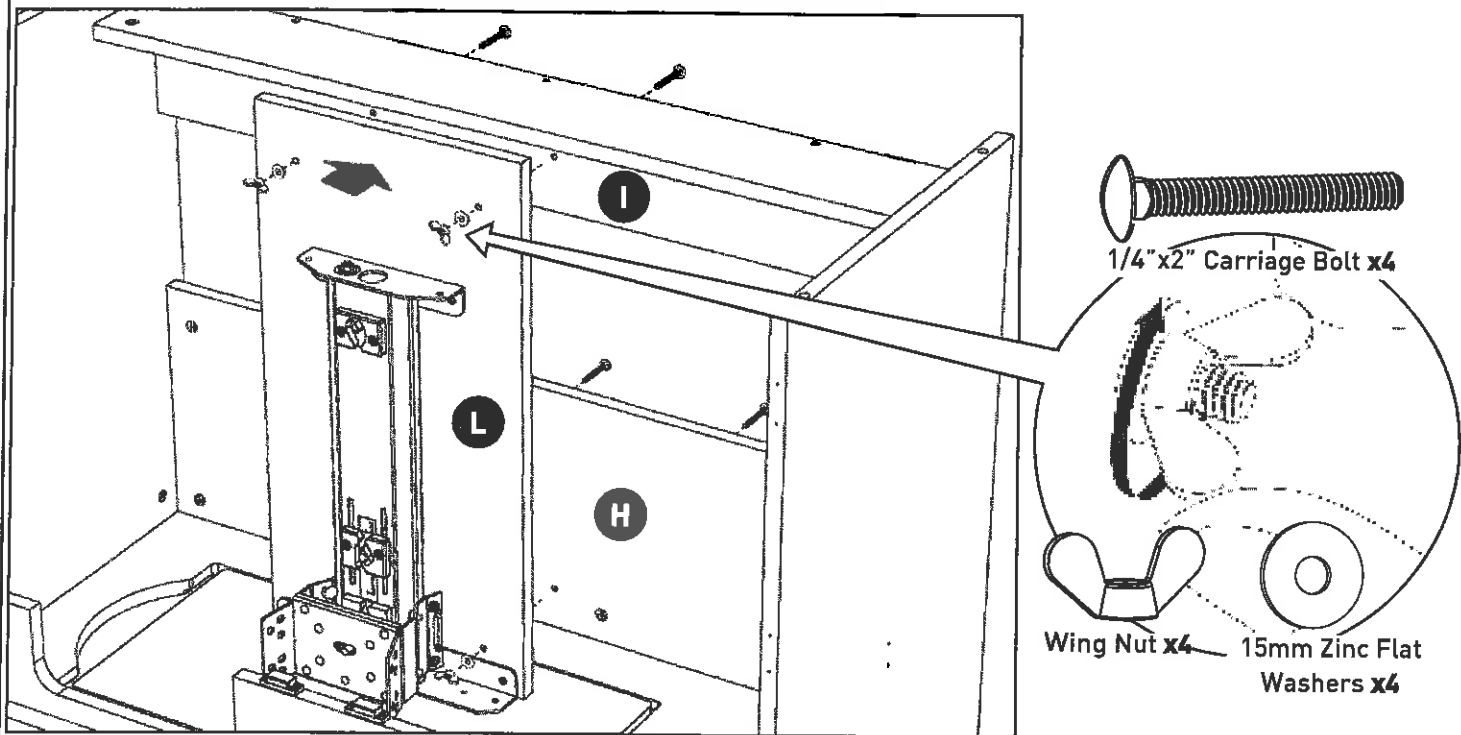

FIG. 12
**Step 12.** Attach Lift Panel (L) with airlift on upside down as shown in FIG. 12. Using the Carriage Bolts (x4) attach lift panel to the Back (H) and the Back Brace (I), poke Carriage bolts through pre-drilled